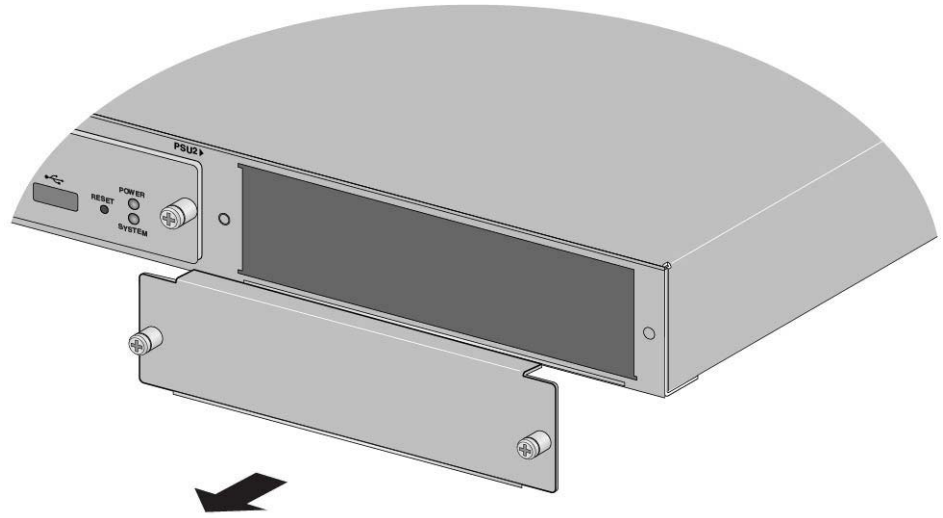

Figure 35. Removing the Blank Cover from a Power Supply Slot
3. Remove the blank cover. Refer to Figure 35 on page 72.